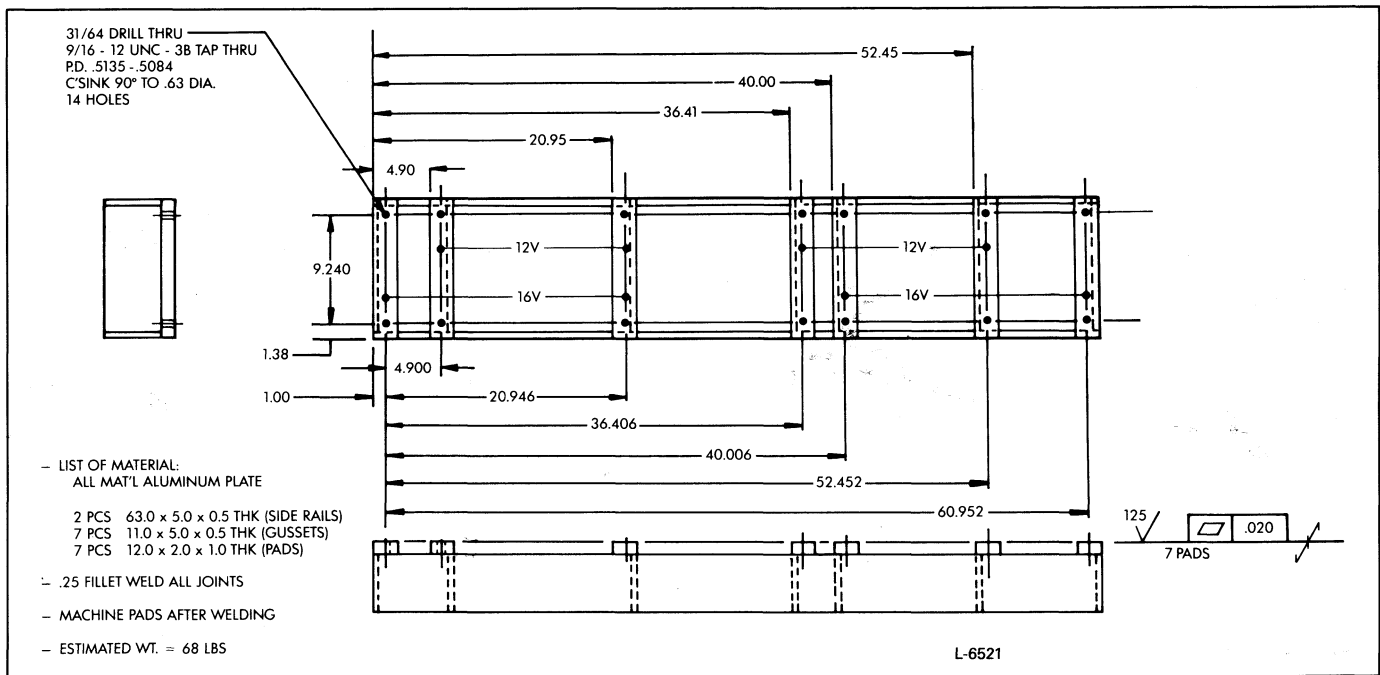

Fig. 5 – Blower Alignment Fixture
8. Fabricate a blower alignment fixture (Fig. 5) and secure both blowers to the fixture. Install an intermediate blower drive shaft on the left side. Position blowers to achieve alignment and spacing, simulating engine installation.
- a. Assemble a hub, spring plates (3) and bolts (3). Insert bolts through the holes (not slots) in the spring plates and tighten to 57-61 lb—ft (77-83 N»m) torque. Make sure the slots in all 3 flex plates line up.